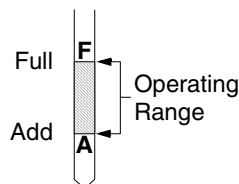
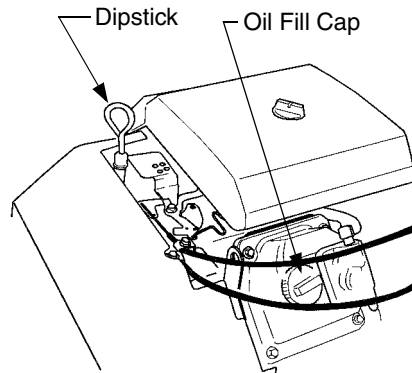
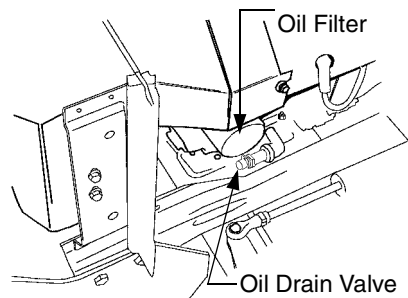

Figure 23
Figure 24
Figure 26
Before checking the oil level, clean the area around the oil level dipstick to prevent debris from entering the crankcase. See Figure 24. Always keep the oil level between the "FULL" and the "ADD" marks on the dipstick. See Figure 23.
- Clean the area around the oil filler cap to prevent debris from entering the crankcase. See Figure 24.
- Remove the oil filler cap from the left valve cover and SLOWLY pour in oil. Fill the crankcase until the oil level reaches the "FULL" mark on the dipstick. See Figure 23.
- Clean around the base of the oil filter, the oil filler cap, and the dipstick tube to prevent debris from entering the crankcase. See Figures 24 and Figure 26.